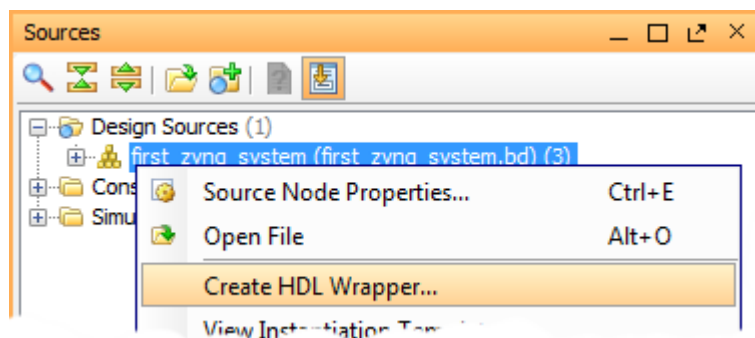

Figure 1.19: Create HDL Wrapper
- (o) Still in the **Sources** window, right-click on the top-level system design, which in this case is **first_zynq_system**, and select **Create HDL Wrapper**, as shown in Figure 1.19.